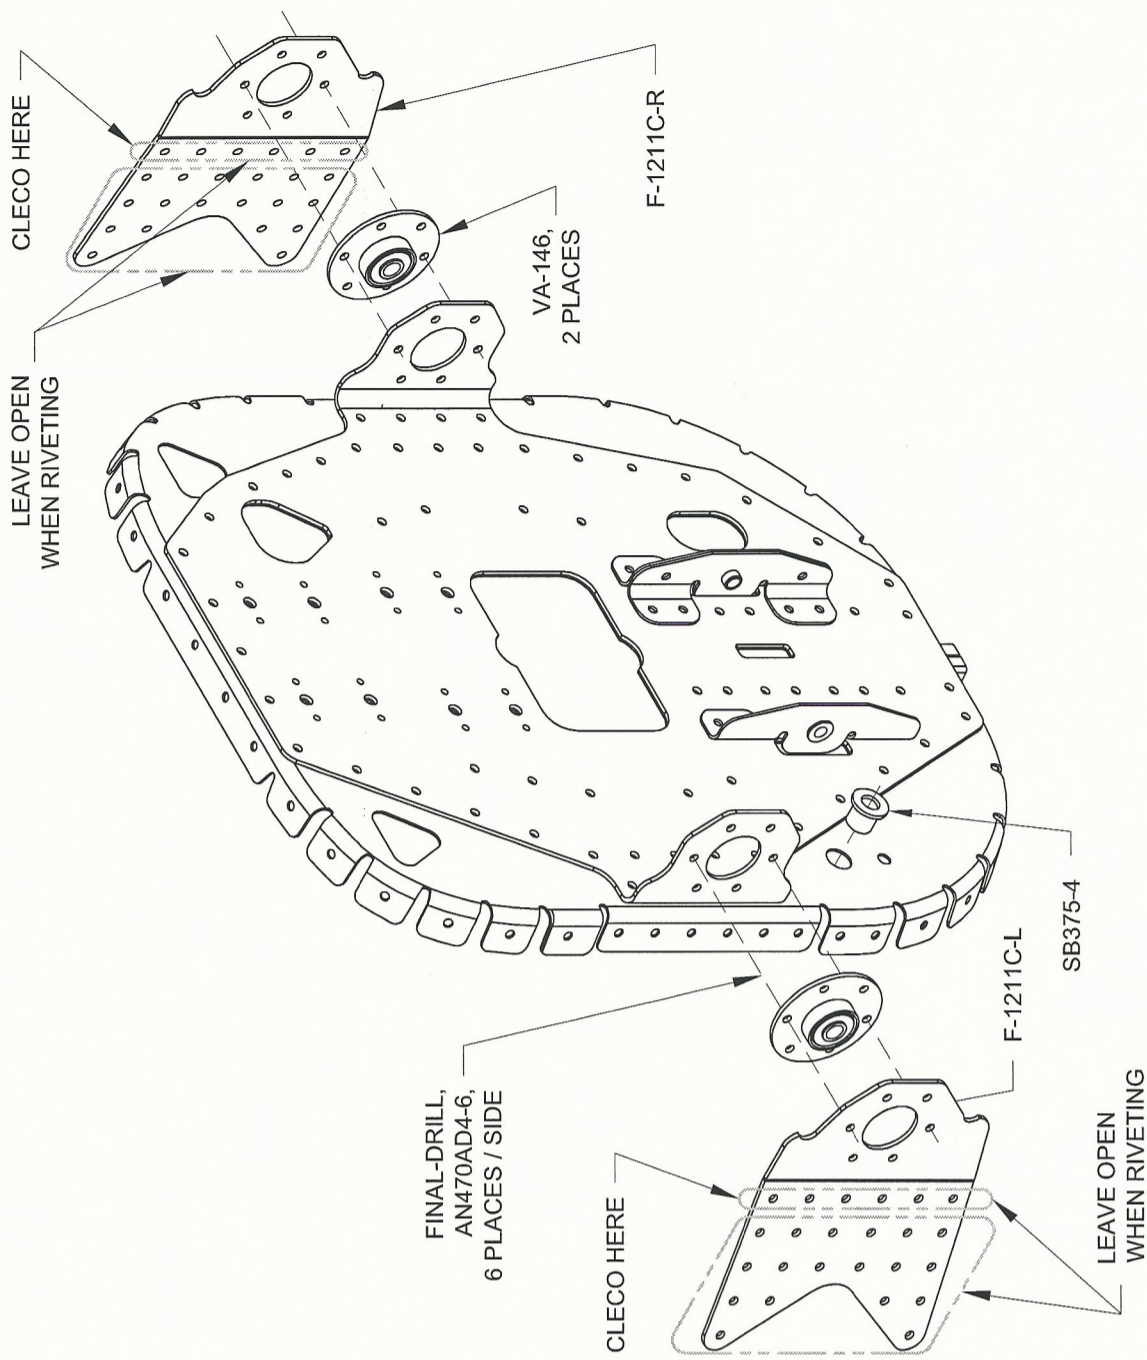

FIGURE 3:
Step 11: Cleco the F-1211C-L & -R Hinge Brackets and the VA-146 Flange Bearings to the F-1211 Assembly as shown in Figure 3.
Step 13: Rivet the F-1211C-L & -R Hinge Brackets and the VA-146 Flange Bearings to the F-1211 Assembly as shown in Figure 3.
Step 14: Insert the snap bushing into the F-1211 Assembly called out in Figure 3.